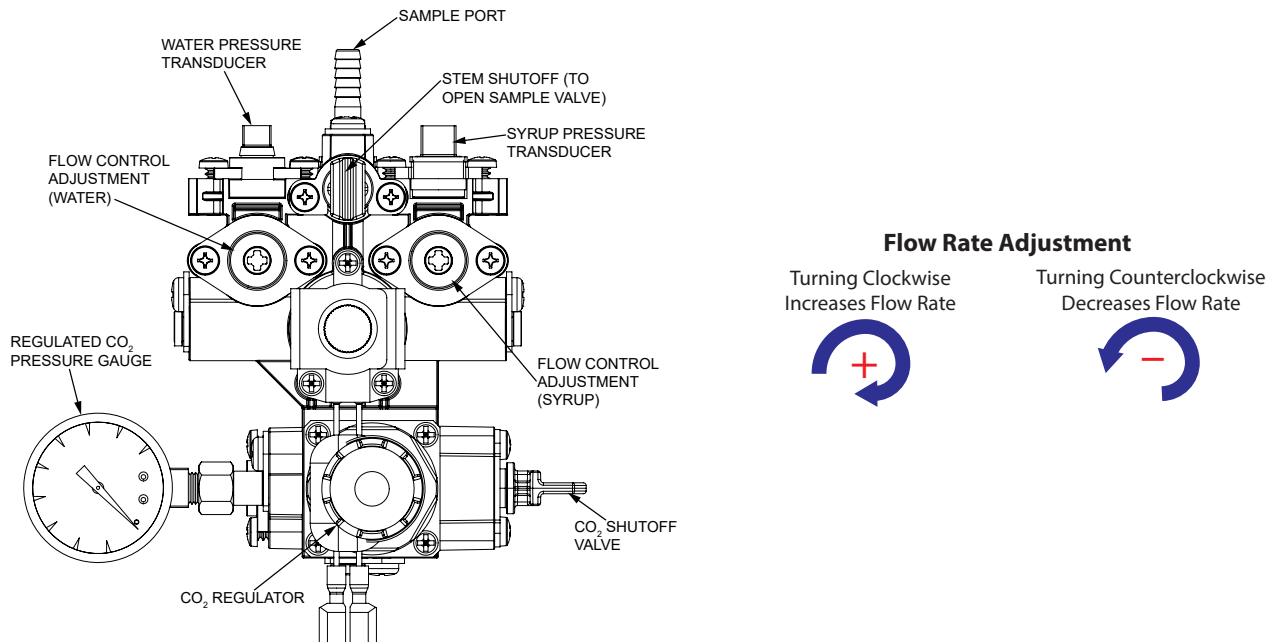

Figure 6.2 Solution Module
6.	Close syrup flow controls by backing the right adjustment screw on the solution module all the way out turning it counterclockwise (see Figure 6.2).
7.	Turn off the CO ₂ shutoff valve (see Figure 6.2).
11.	Place a container under the sample port (see Figure 6.2) and open the sample valve until a good water and syrup mixture is obtained. This sample should be discarded.